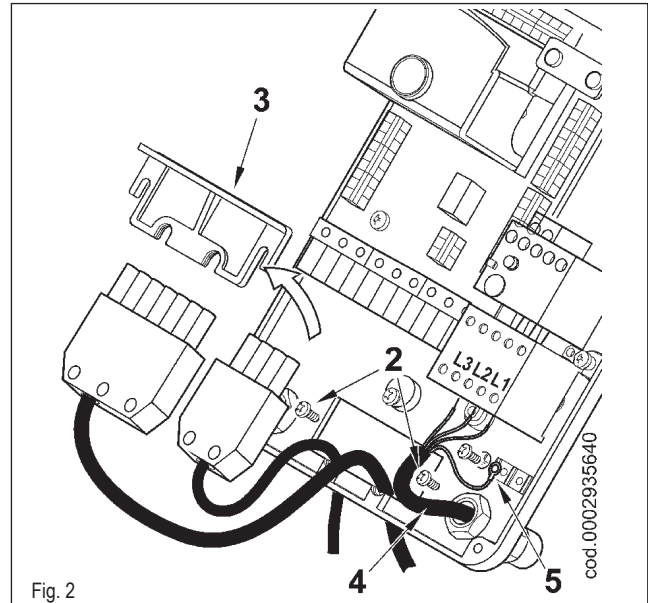

Fig. 2
- Slacken screws (2) and, after removing the cable float plate (3), pass the two 7 and 4 pole plugs through the hole (see figure 2). In the case of a three-phase burner, connect the power supply cables (4) to the contactor, fix the ground cable (5) and tighten its cable holder.